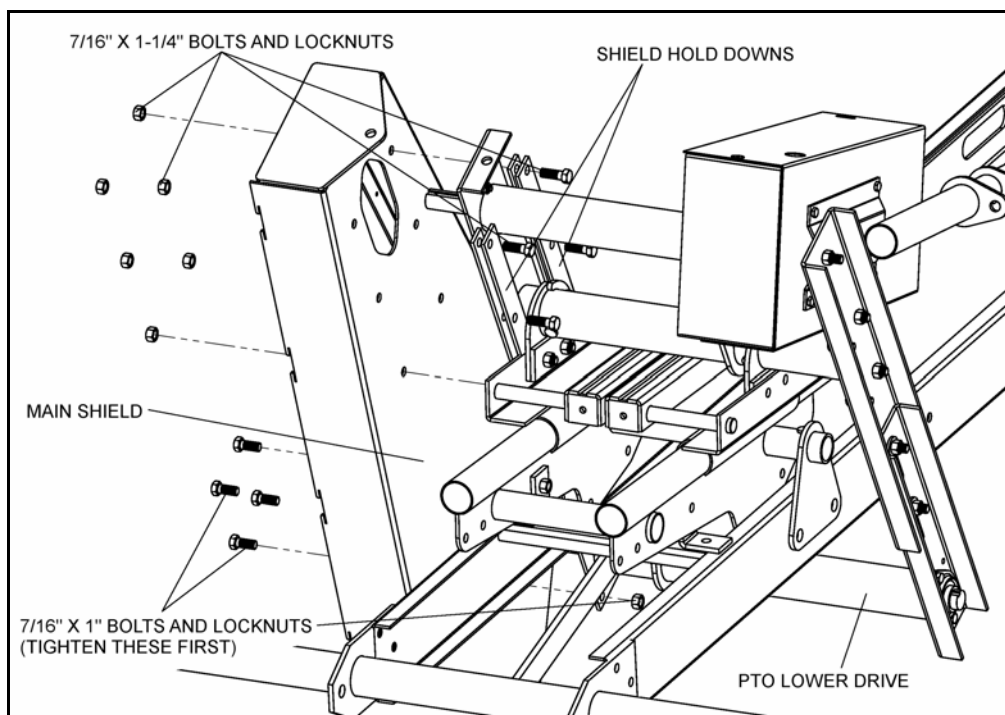

Figure 3.46
10. Mount main shield on to PTO lower drive and secure with four $\frac{7}{16}$ " x 1" bolts and locknuts (see Figure 3.46). Tighten bolts fully.
11. Pass six $\frac{7}{16}$ " x $1\frac{1}{4}$ " bolts through shield hold downs and shield as shown in Figure 3.46. Secure with six $\frac{7}{16}$ " locknuts. Do not tighten bolts fully; joint must be able to slide.